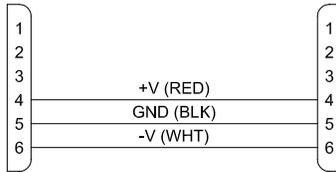

Figure 21. 3500-D Power Cable with 6-Contact Plug
- The 3500-D may obtain power from PESA system components having 6-contact power connectors by using a power cable assembly (Part No. 81-9065-TBD-0) constructed as shown in Figure 21. If this cable must be constructed in the field, consult Drawing No. WI50-TBD for assembly details. This cable may be used with the following equipment: